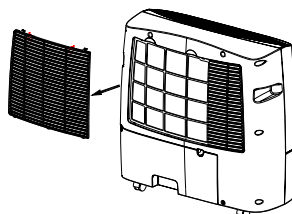

FIG.4
- Remove the filter from the unit back. (FIG. 4)